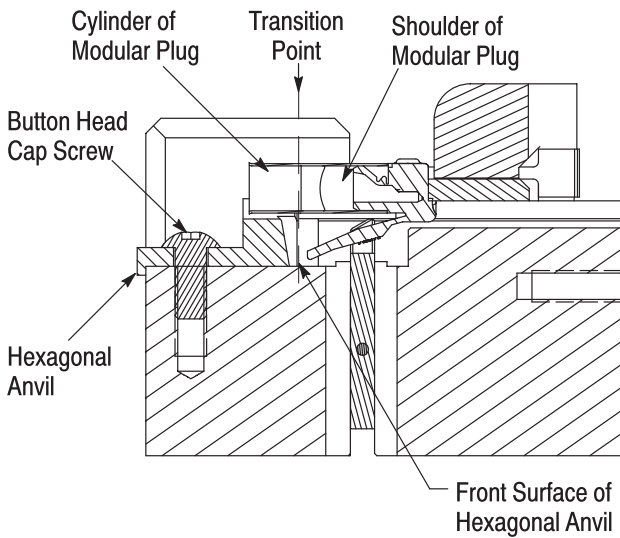

Figure 4
- b. Loosen the button head cap screw on the hexagonal anvil. See Figure 4.
*When the anvil is positioned properly, the front surface of the anvil is in the same vertical plane as the transition point between the modular plug cylinder and shoulder. See Figure 4.*